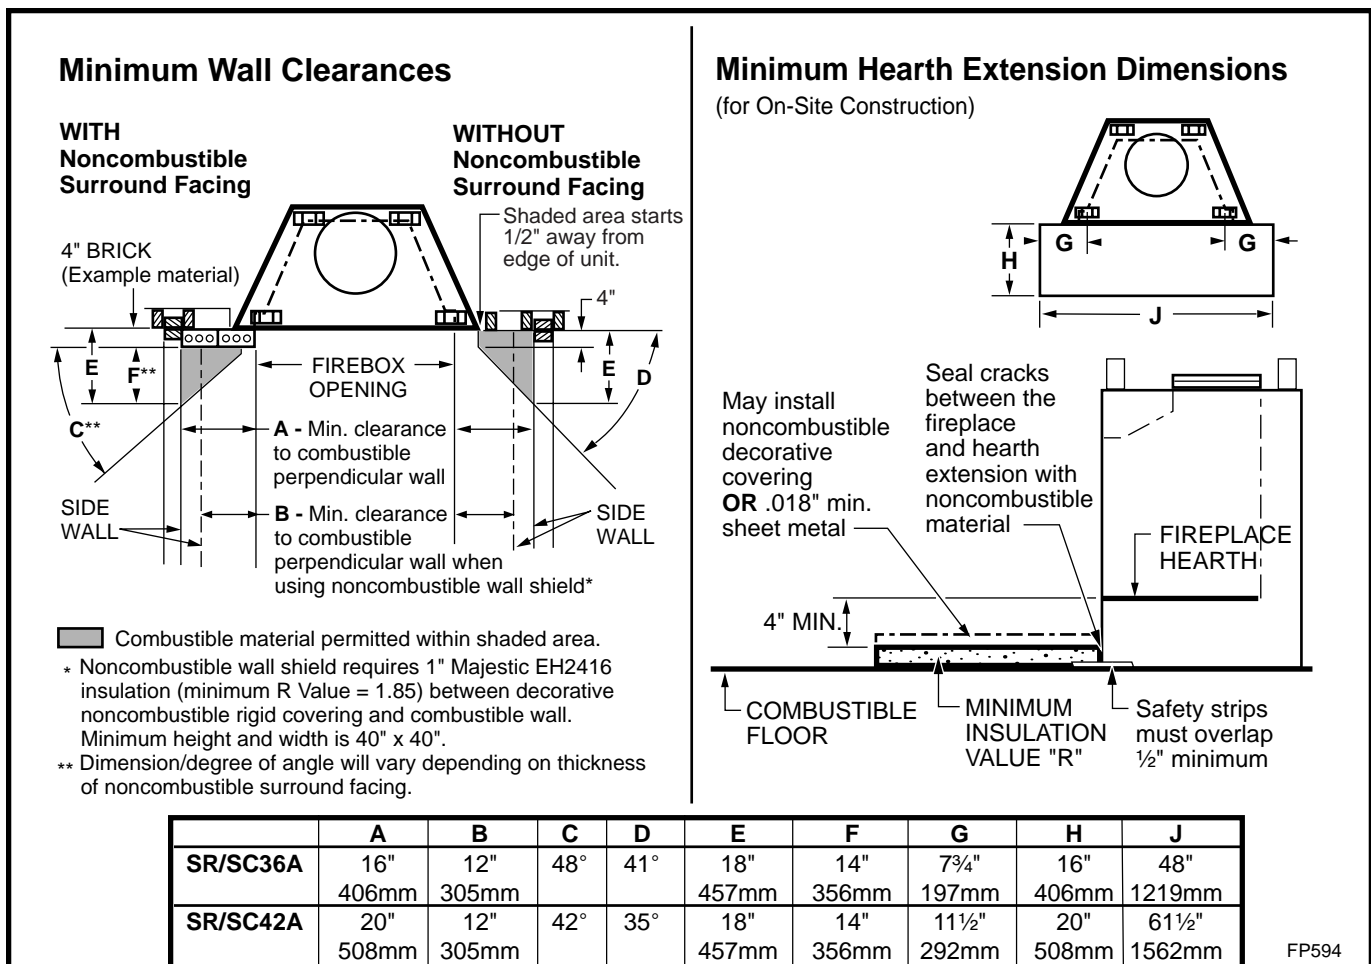

Fig. 23 Combustible side wall protection and hearth extension dimensions.
Often a decorative surround or vertical portion of the mantel is desired. If this is constructed of any combustible material it must be within the safe zone indicated in Figure 23.
Adjacent combustible side walls that are within the minimum dimensions shown in Figure 23 of fireplace opening must be protected with Vermont Castings, Majestic Products Wall Shield Model SP40 or a specifically built wall shield described below.
A hearth extension is required to protect a combustible floor in front of the fireplace. Refer to Figure 23 for minimum dimensions and mounting detail.
The hearth extension described in Figure 23 must be a durable noncombustible material with a minimum (total) Rt value of 1.09; refer to Figure 24 for examples. The overall height (above a combustible floor), depth and width must be as indicated, with the extension centered to the fireplace opening.
The top of insulation must be covered with a noncombustible decorative covering **or** a piece of .018" minimum sheet metal, to protect hearth extension material. (Fig. 23)
Secure the hearth extension to the floor to prevent shifting, using trim molding or other similar means at three (3) outer edges. Seal crack between the fireplace hearth and hearth extension with a noncombustible material. (Figs. 23 and 25)
WARNING: HEARTH EXTENSION MUST BE INSTALLED IN ACCORDANCE WITH FIGURE 23 AND MUST NOT COVER THE BOTTOM FRONT OPENING OF THE CIRCULATING MODEL.